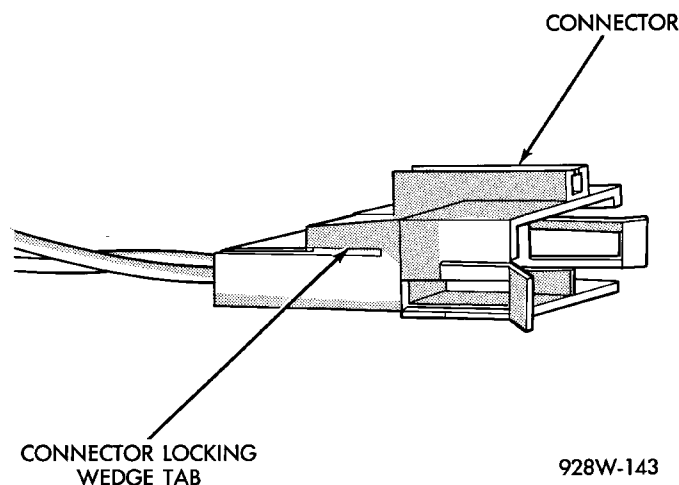

Fig. 19 Connector Locking Wedge Tab (Typical)
- (1) Disconnect battery.
- (2) Disconnect the connector being repaired from its mating half. Remove connector locking wedge, if required (Fig. 19).
- (3) Remove connector locking wedge, if required (Fig. 19).